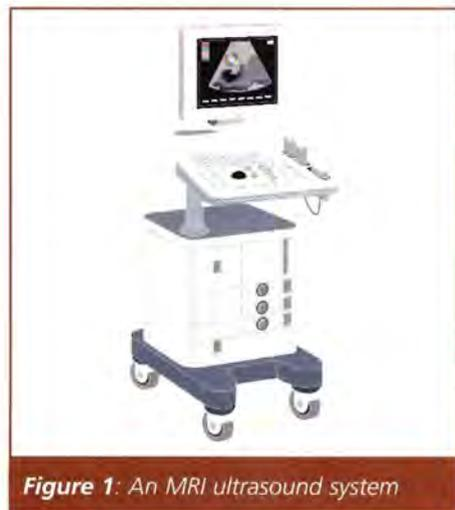

Figure 1: An MRI ultrasound system
The increasing demands on new medical imaging equipment are driven mainly by investments in scanning systems by hospitals, replacement of older outpatient facilities, replacement of conventional analogue machines by digital x-ray systems, growth in diagnostic ultrasound equipment (see **Figure 1**) and the trend to combine different technologies within the same equipment, like Computer Tomography (CT) and MRI.